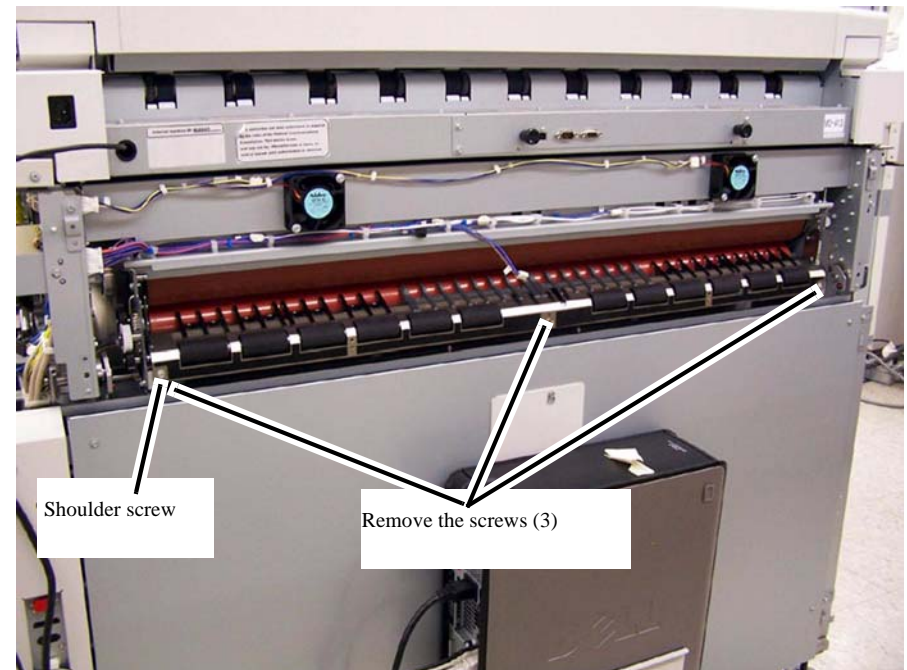

Figure 1 Lower Exit Chute removal
- Remove the Lower Exit Chute (Figure 1).